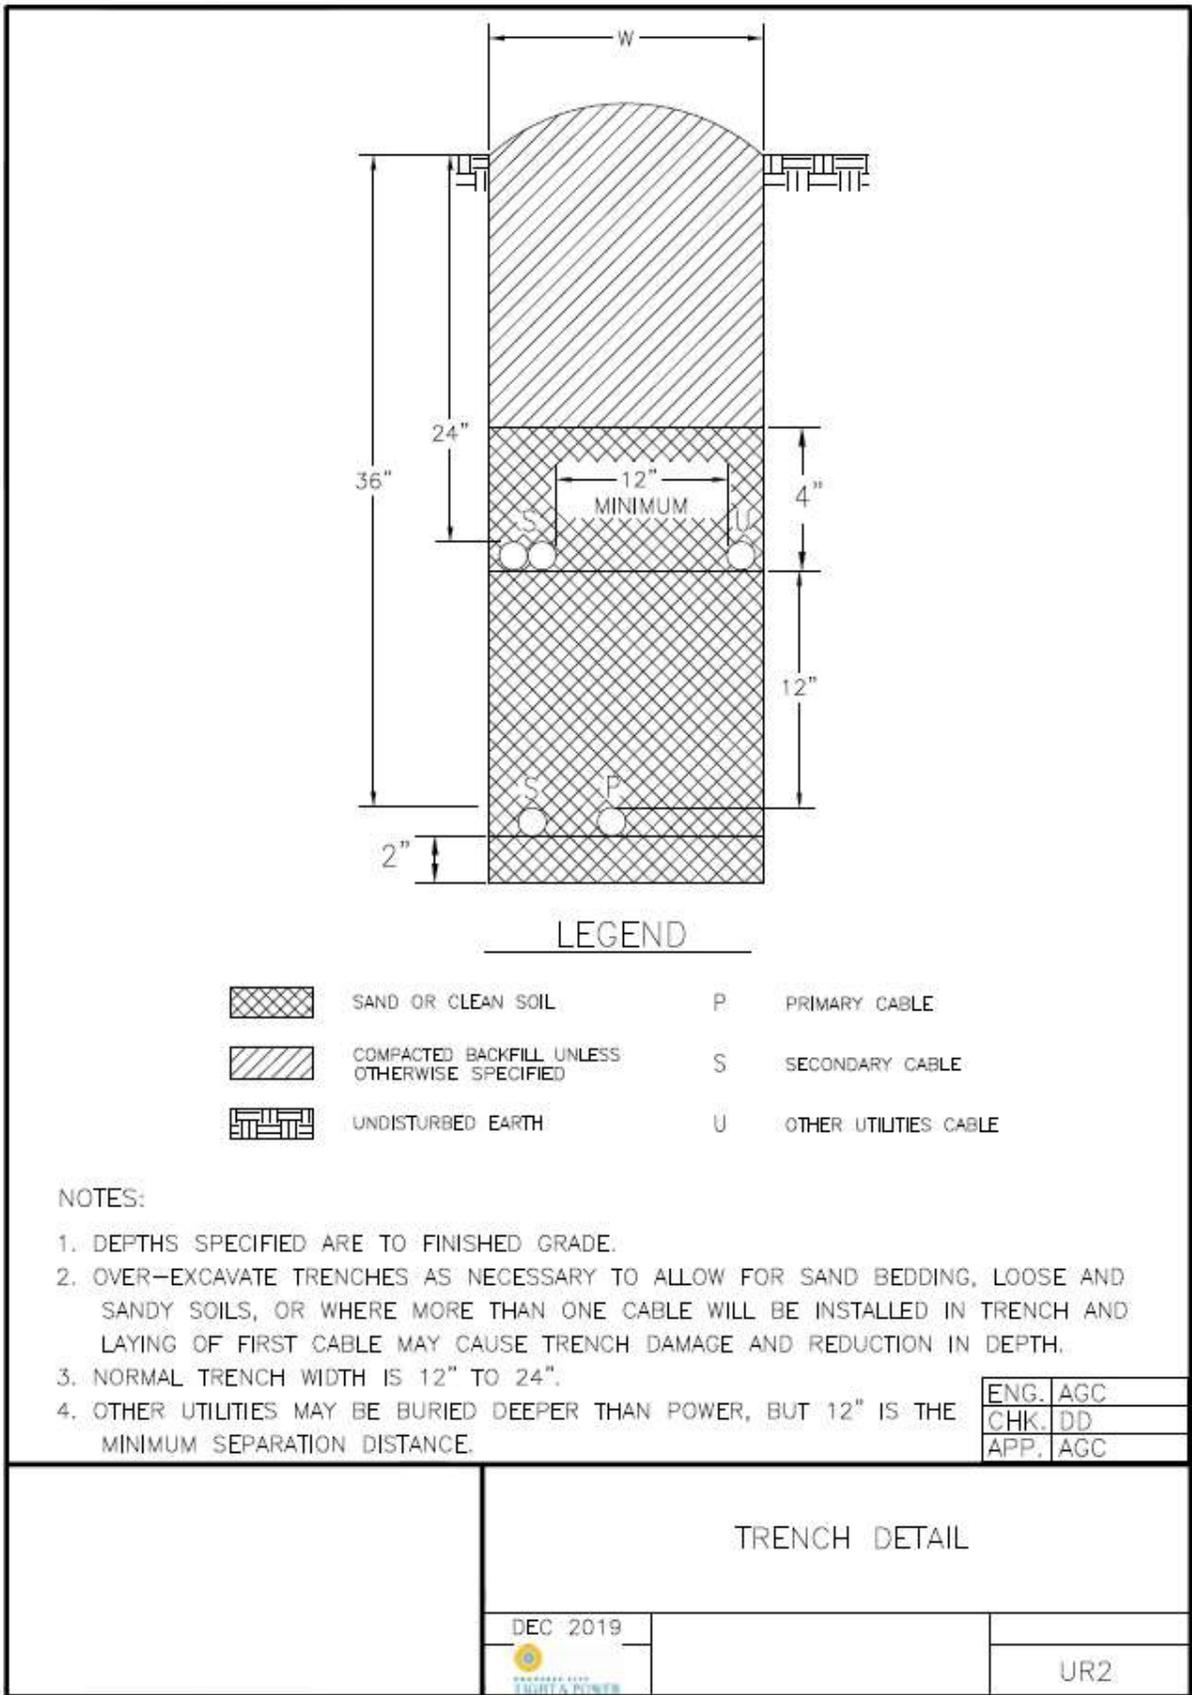

Figure 9.1 Service Trench Detail
3. *Service Trench* and conduit installation is to be installed per Figure 9.1.